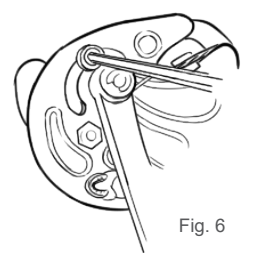

Fig. 6
4. Using a hex wrench, loosen the draw stop screw on the outer cam. Be careful not to misplace the nut on the bottom of the outer cam. (Fig. 6)